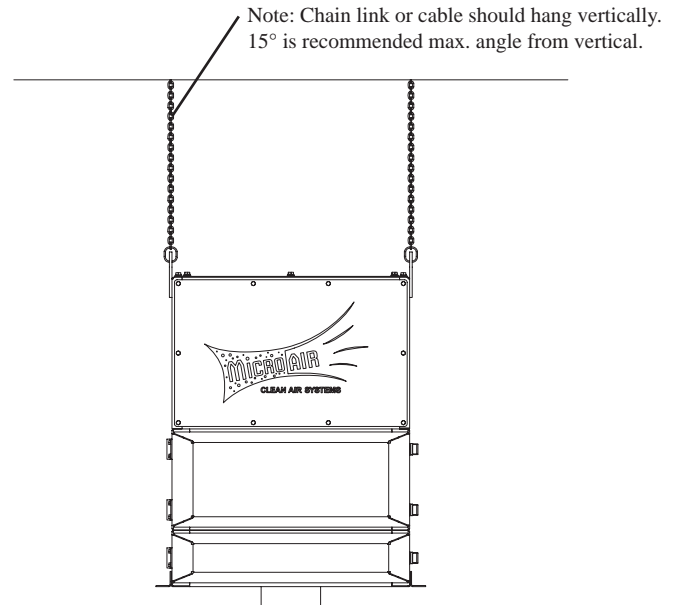

Figure 1
2. Use strong braided wire or chain to attach the air cleaner at the provided hanging brackets to structural supports (Fig 1).